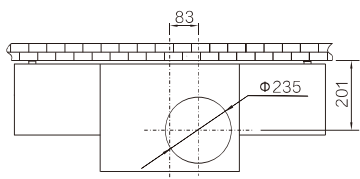

Figure 2
- As figure (1), drill 4 holes of Φ10mm horizontally on the wall, hole depth 80mm, and hole spacing as n figure (1),
- Install the air duct cover (if needed): If the kitchen room has suspended ceiling and flexible duct through the ceiling (the opening size as Figure 2);